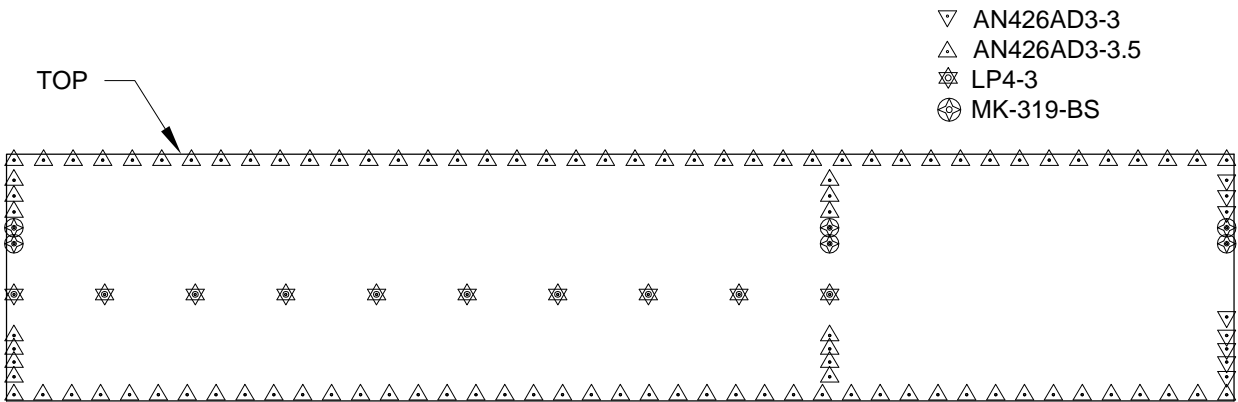

FIGURE 2: NOSE SKIN RIVETS
Step 3: Remove the aileron assembly from the cradle and lay it on its top with the trailing edge clecos hanging over the edge of the table as shown in Figure 3. Blind rivet the A-1009 Counterbalance to the A-1001A-1L Nose Skin (see Figure 2 for rivet call-outs). For a nicer finish use a small hammer to tap the top and bottom edges of the blind rivet heads down flush to the skin so that the rivet head follows the tight radius of the leading edge.